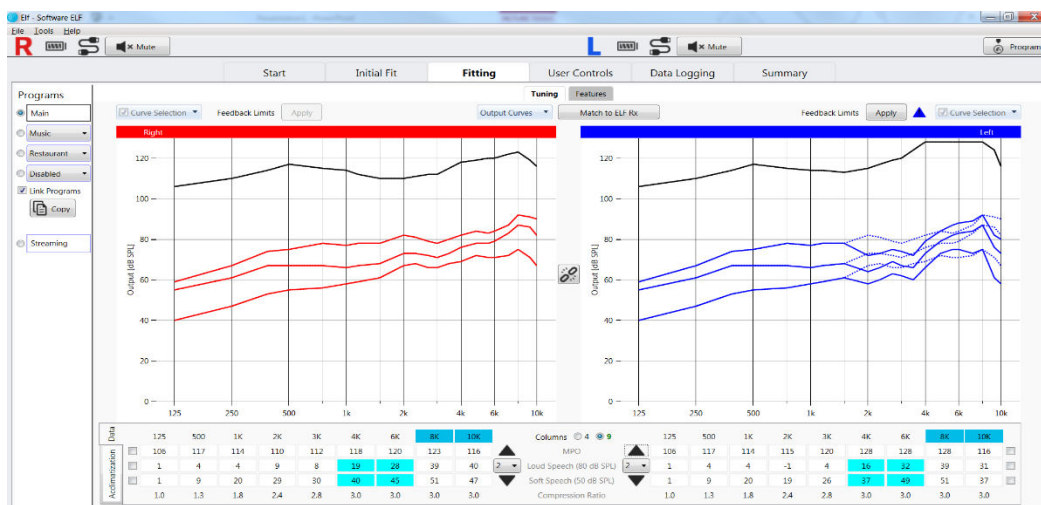

Figure 25: Fine Tuning- Output Curve displaying feedback potential for the left ear
- Gain can be increased beyond the feedback limits but may result in the patient experiencing audible feedback. An icon will appear when feedback potential exists on a per ear and program basis. When this occurs, select "Apply" to apply the feedback limits to the frequency response (Figure 25).